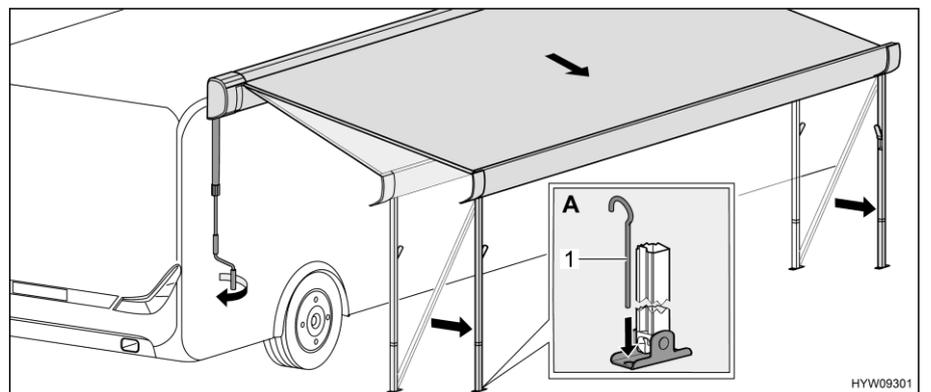

Fig. 34 Bringing awning into end position
- Fix the support legs to the floor with tent pegs (Fig. 34,1) (Fig. 34,A).